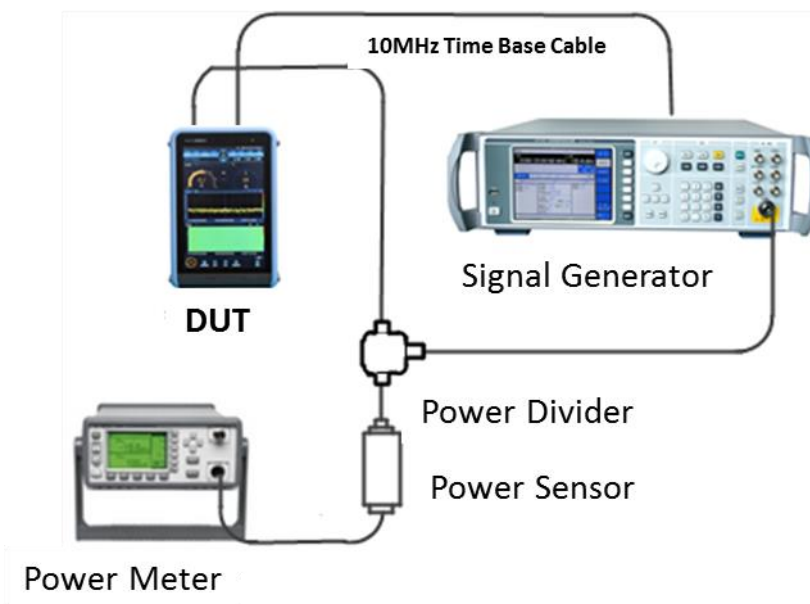

Fig. 8.11 Schematic diagram of the test for mirror frequency suppression
1) Connect the test equipment as shown in Figure 8.11.